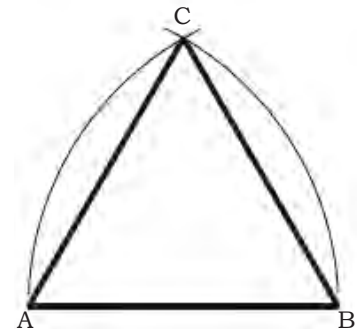

Fig. 1.15: Drawing an equilateral triangle
2. Place a compass needle at point A and open it to the radius equal to the length of side AB and draw an arc as shown in the Fig. 1.15.